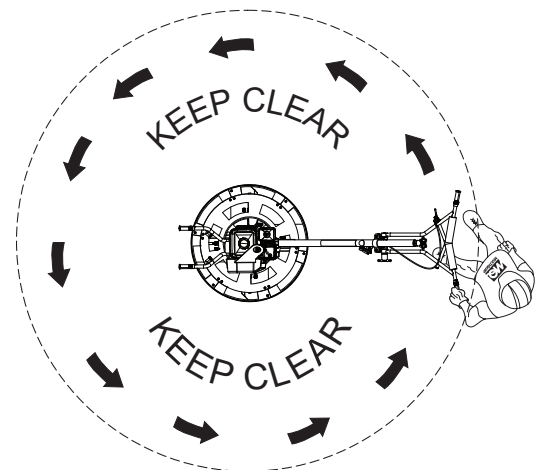

Figure 40. Centrifugal Safety Stop Switch Test
- Stand behind the handle in the operator's position (Figure 40) and spin the handle to the right, simulating a runaway condition. Centrifugal force should throw the safety switch outward to the **OFF** position, thus shutting off the engine.